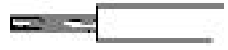
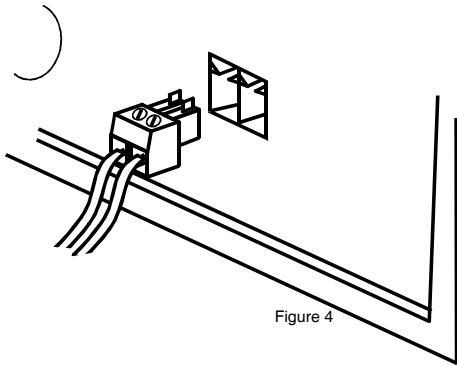

Figure 3
Figure 4
- ❑ Strip 1/4 inch of insulation from the ends of the two wires coming from the track joiners or terminal track as in Figure 3. Insert these wires into the two pin plug that came with your DCC Twin (Figure 4).
Tighten the screws so that they are snug. Not too tight, just snug. Insert this plug in the two pin socket on the back of the DCC Twin (Figure 4).